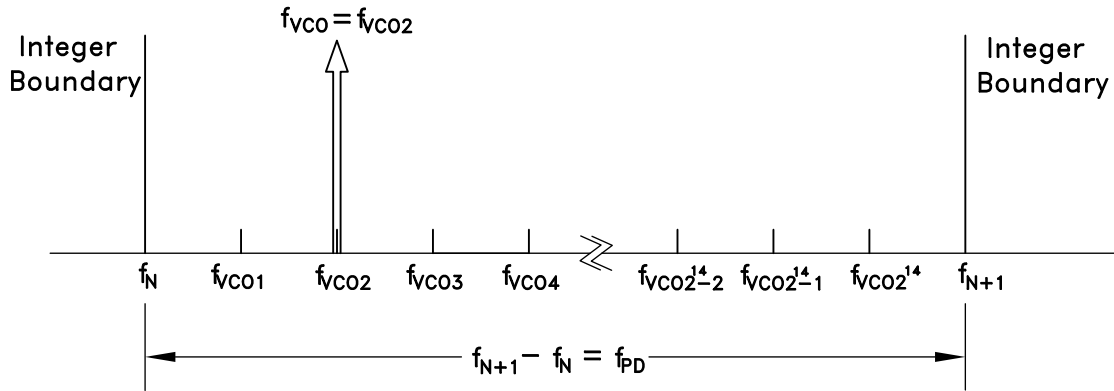

Figure 23. Exact Frequency Tuning
and f_{VCOk} are the channel step frequencies where $0 < k < 2^{24}-1$, As shown in Figure 23.
Some fractional PLLs are able to achieve this by adjusting (shortening) the length of the Phase Accumulator (the denominator or the modulus of the Delta-Sigma modulator) so that the Delta-Sigma modulator phase accumulator repeats at an exact period related to the interval frequency ($f_{VCOk} - f_{VCO(k-1)}$) in Figure 23. Consequently the shortened accumulator results in more frequent repeating patterns and as a result often leads to spurious emissions at multiples of the repeating pattern period, or at harmonic frequencies of $f_{VCOk} - f_{VCO(k-1)}$. For example, in some applications, these intervals might represent the spacing between radio channels, and the spurious would occur at multiples of the channel spacing.
If it is desirable to have multiple, equally spaced, exact frequency channels that fall within the same interval (ie. $f_N \leq f_{VCOk} < f_{N+1}$) where f_{VCOk} is shown in Figure 23 and $1 \leq k \leq 2^{14}$, it is possible to maintain the same integer-N (Reg 03h) and exact frequency register (Reg 0Ch) settings and only update the fractional register (Reg 04h) setting. The Exact Frequency Channel Mode is possible if (EQ 17) is satisfied for at least two equally spaced adjacent frequency channels, i.e. the channel step size.
To configure Hittite PLL for Exact Frequency Channel Mode, initially and only at the beginning, integer (Reg 03h) and exact frequency (Reg 0Ch) registers need to be programmed for the smallest f_{VCO} frequency (f_{VCO1} in Figure 23), as follows:
1. Calculate and program the integer register setting $\text{Reg 03h} = N_{INT} = \text{floor}(f_{VCO1}/f_{PD})$, where f_{VCO1} is shown in Figure 23 and corresponds to minimum channel VCO frequency. Then the lower integer boundary frequency is given by $f_N = N_{INT} \cdot f_{PD}$.
$$\text{Reg04h} = N_{FRAC} = \text{ceil} \left(\frac{2^{24} (f_{VCOk} - f_N)}{f_{PD}} \right) \quad \text{where } f_N = \text{floor}(f_{VCO1}/f_{PD}), \text{ and } f_{VCO1}, \text{ as shown in Figure 23, represents the smallest channel VCO frequency that is greater than } f_N.$$
4. To change from channel 1 ($f_{VCO1} = 2000.2$ MHz) to channel 2 ($f_{VCO2} = 2000.3$ MHz), only Reg 04h needs to be programmed, as long as all of the desired exact frequencies f_{VCOk} (Figure 23) fall between the same integer-N boundaries ($f_N < f_{VCOk} < f_{N+1}$). In that case